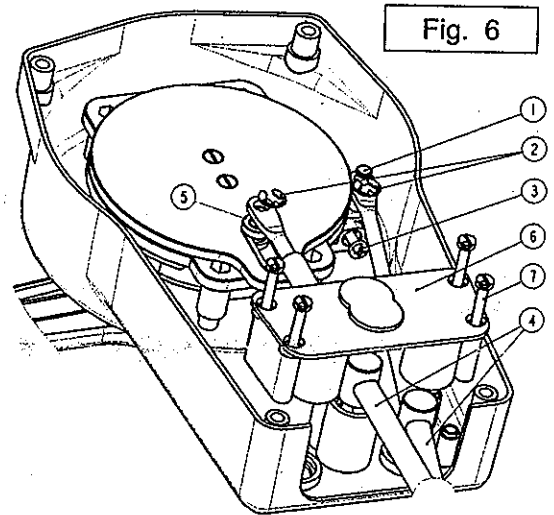
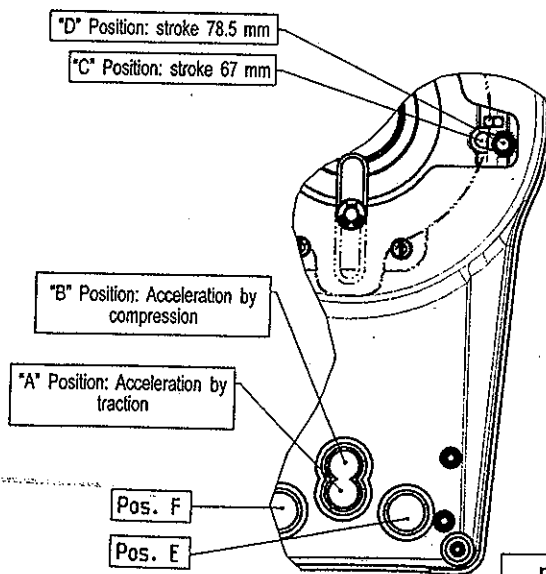

Fig. 6
Fig. 7
1. Insert the reverser stud (1) in the control cable rod eyelet (see Fig. 6) and fix it with the stop-ring (2). The cable shall be positioned in the "E" or "F" seat (see Fig. 3), according to the direction of installation of the box (see Fig. 7). Insert the reverser stud in the slot (see Fig. 6) and place it in position "C" (inward) or "D" (outward) depending on the necessary stroke (see Fig. 7). Fasten the stud with one M4x18 screw (3).
1. Insert the cable in the throttle stud (5) and fix it with the stop-ring (2) (see Fig. 6). In case of acceleration by traction, the cable shall be positioned in "A", while in case of acceleration by compression, the cable shall be positioned in "B".
2. Insert the cable lock (6), making sure that the cables barrels are properly positioned in their seats. Fix the cable lock with n°. 4 M4x40 screws (7) (see Fig. 6)